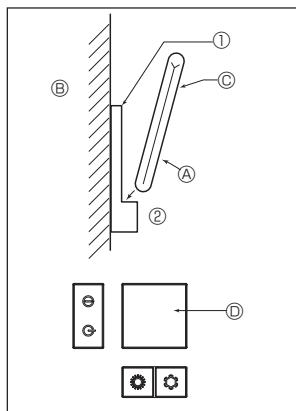

Fig. 7-7
2) Installation method (Fig. 7-7)
① Attach the remote controller holder to the desired location using 2 tapping screws.
② Place the lower end of the controller into the holder.